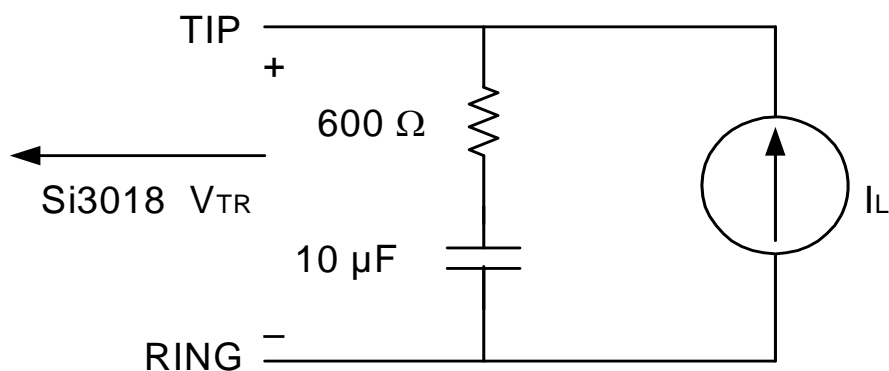

Figure 25. Phone Line Termination Circuit
&T3	Initiate ITU-T V.54 (ANALOO) test. Modem mode set by &H. Test loop is through the DSP (ISModem), DAA interface section (ISModem), ISOCap interface (Si3018/10), and analog hybrid circuit (Si3018/10). ISModem echoes data from TX pin (Hardware Interface Register 0 in parallel or SPI mode) back to RX pin (Register 0 in parallel or SPI mode). Phone line termination required as in Figure 25. In order to test only the ISOCap link operation, the hybrid and AFE codec can be removed from the test loop by setting U62 [1] (DL) = 1.